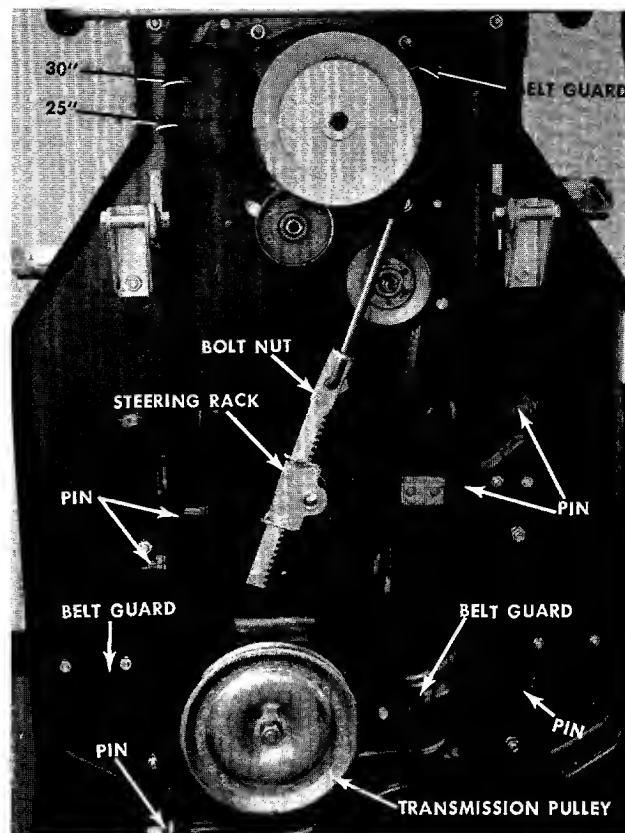

FIGURE 25. BOTTOM VIEW
Step 6. Remove the six pins holding the deck to the frame. See figure 25.
- b. Remove the two belt guards from the transmission pulley. See figure 25.